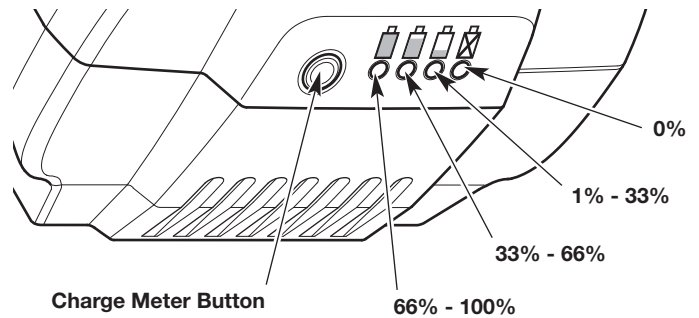

Fig. 8
1. Press the charge meter button (Fig. 8).
2. One or more of the charge meter lights should illuminate (Fig. 8). The number and color of the lights will indicate the current battery charge level: